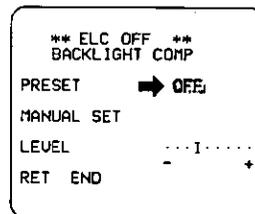

Fig. 47
- Press the Setup Mode Button (SET UP) to proceed to the Backlight compensation menu as shown in Fig. 47.